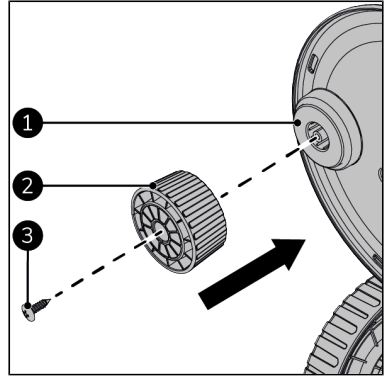

Figure 29.
1. Attach the handle (Figure 29, pos. 1) to the main body (Figure 29, pos. 2) with the ST4.8x16 screw (Figure 29, pos. 3).